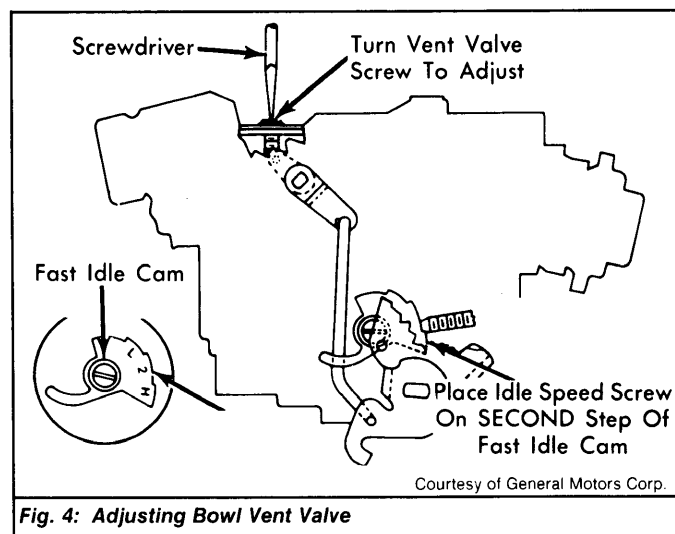

Fig. 4: Adjusting Bowl Vent Valve
- 2) Observe vent valve. Valve should just close at correct idle speed. If necessary, turn vent valve screw to adjust. See Fig. 4.